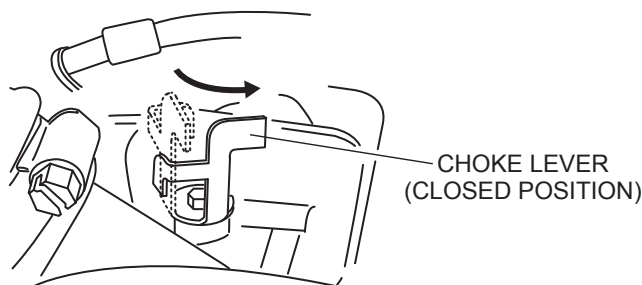

Figure 7. Choke Lever
2. Place the choke lever to the closed position (Figure 7). When the weather is cold, close the choke all the way. When it is hot, or if the engine is hot, open the choke a little or leave it fully open.
4. If engine fails to start, move the choke lever (Figure 7) to the half open position to avoid flooding.